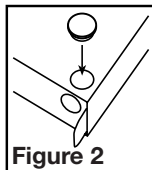

Figure 2
- Select the most convenient electrical knockout hole and insert the knockout plug into the 2nd knockout hole (Figure 2).